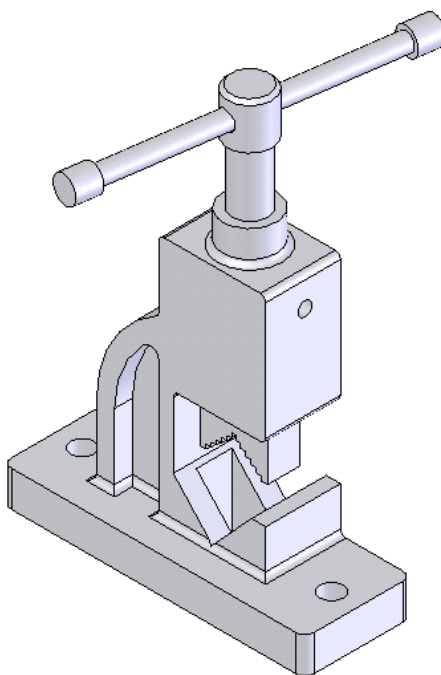
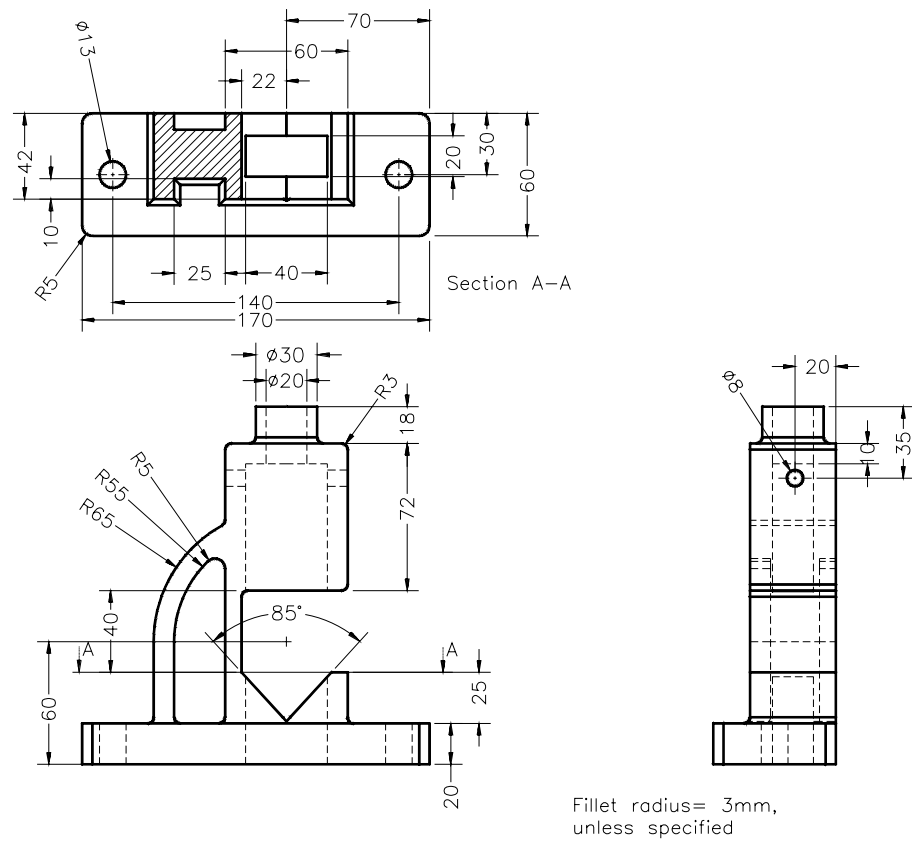

Figure 10-74 Pipe Vice assembly
Figure 10-75 Views and dimensions of the base
In this tutorial, you will create all components of the Pipe Vice and then assemble them. The Pipe Vice assembly is shown in Figure 10-74. The dimensions of various components of this assembly are given in Figures 10-75 and 10-76. **(Expected time: 2 hrs 45 min)**
1. Create all components of the Pipe Vice assembly as separate part documents. Specify the names of the files, as shown in Figures 10-75 and 10-76. The documents should be saved in the folder */My Documents/SolidWorks/c10/Pipe Vice*.